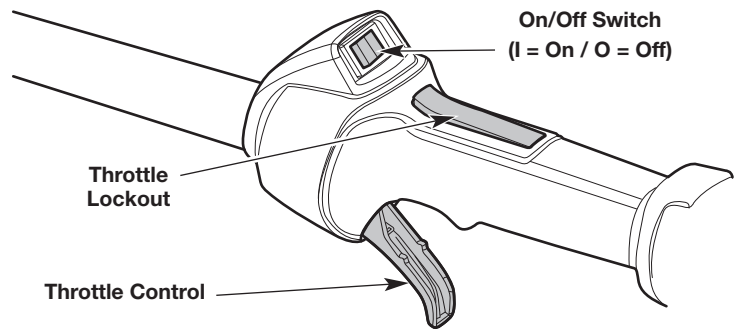

Fig. 18
NOTE: There is no need to turn the unit on. The On/Off switch is in the **On (I)** position at all times (Fig. 18).
NOTE: DO NOT squeeze the throttle control (Fig. 18) until step 6.
6. Press and hold the throttle lockout (Fig. 18). Squeeze the throttle control as needed for operation (Fig. 18).
2. Press and hold the On/Off switch in the **Off (O)** position until the engine comes to a complete stop (Fig. 18).